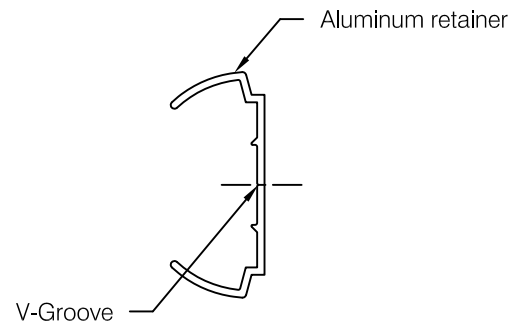

fig 2
- Step 3:** Pre-drill clearance holes for wall mount fasteners in aluminum retainer along the V-Groove provided in the retainer, see **fig 2**. Use a #15 (.180") bit for #8 fastener or a #7 (.201") bit for #10 and 3/16" fasteners. Space holes at 16" on center. Adjust spacing to accommodate studs as necessary. Do not pre-drill at locations that will interfere with installation of molded accessories.